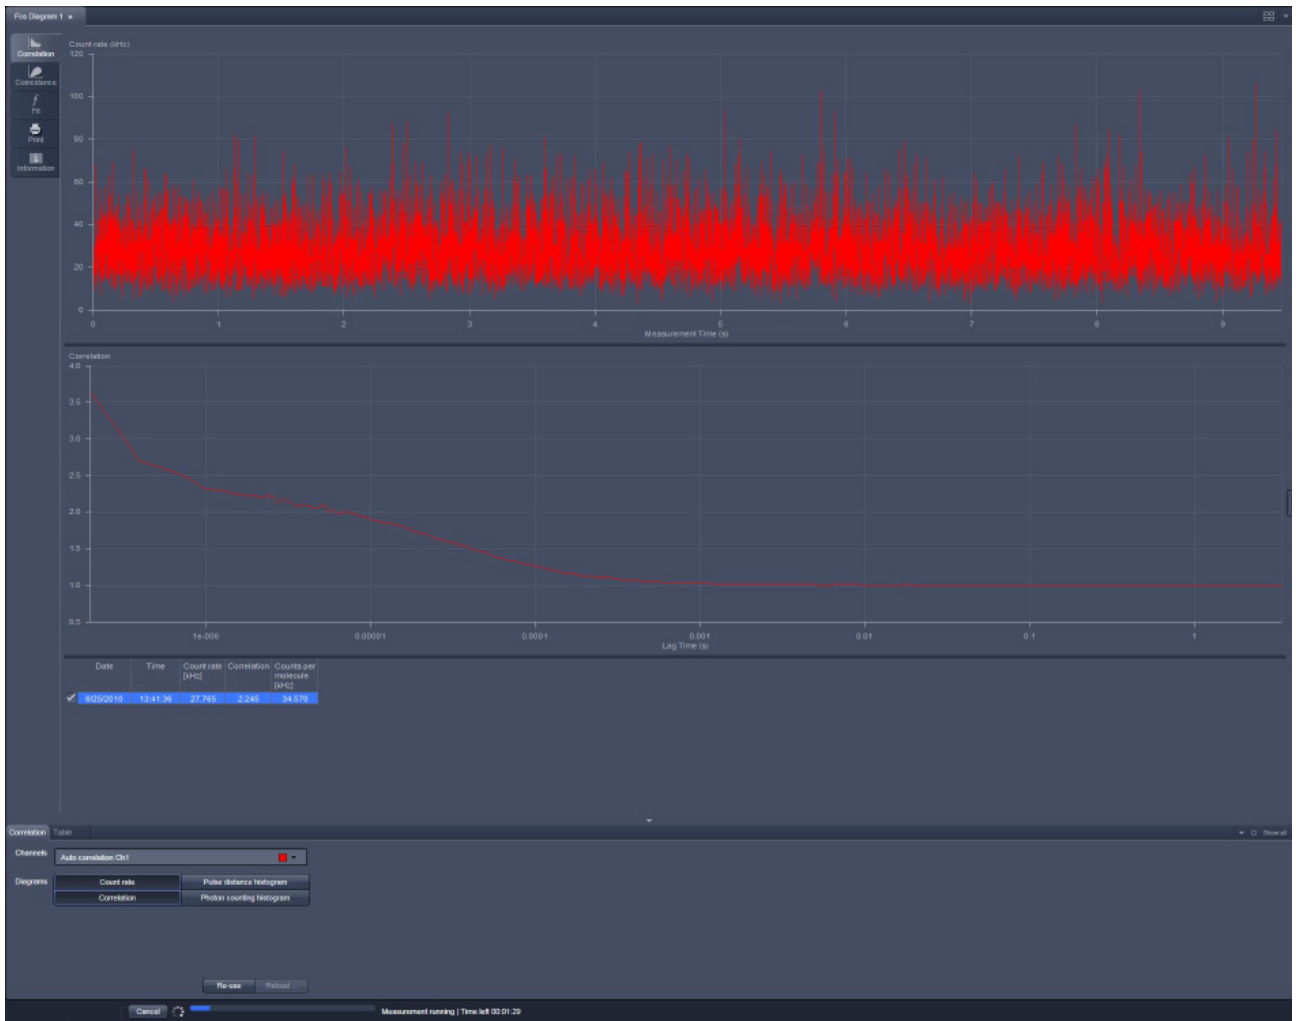

Fig. 326 FCS Correlation window during data acquisition
- Click on the **Snap** or **Start Experiment** action button to start the measurement and data analysis process. If **Snap** was chosen, exactly one measurement at the first **Carrier** or highlighted **LSM Image** (Fig. 326) position will be performed. If **Start** was selected, measurements will be performed on all selected positions in a sequence.